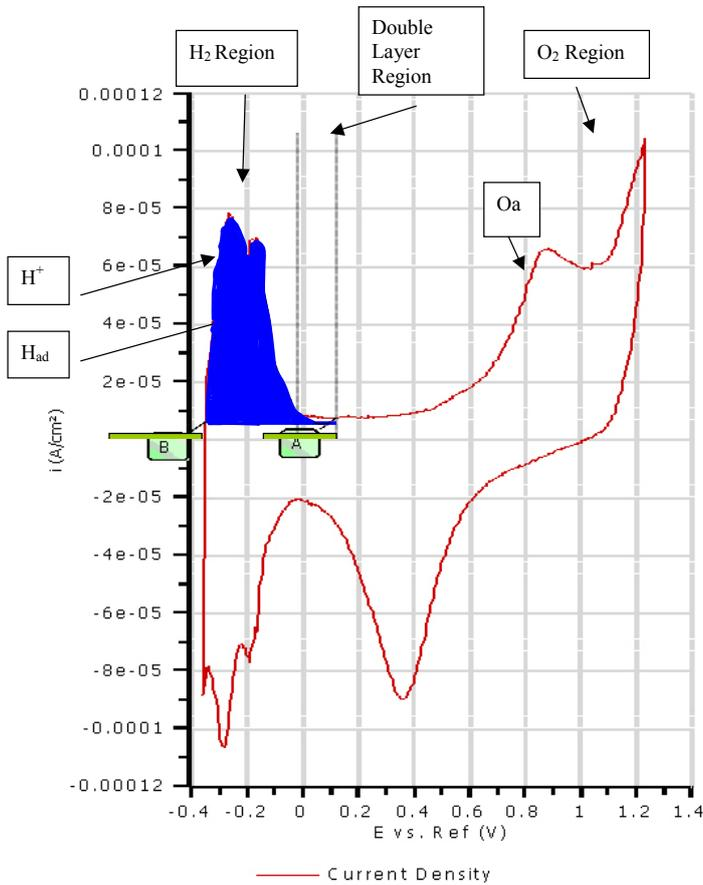
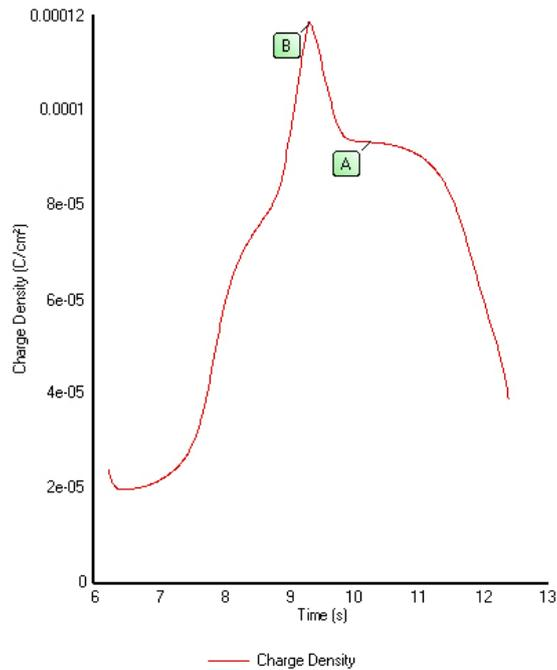

Figure 1: Cyclic Voltammogram of a Pt disk electrode in H₂SO₄. The hydrogen desorption region is highlighted in the shaded region.
Figure 2: Plot of Q vs t (derived from Figure 1 in the software)
A sample voltammogram is presented in Figure 1 with the oxygen and hydrogen regions identified. The shaded area represents the region associated with the desorption of hydrogen including double layer charging. The total charge is calculated using the following expression;
- Select the region of the curve to integrate. The software requires two markers to define this region; marker A defines E₁ and B defines E₂ (see Figure 1).
- (See Figure 2) change graph 1 to Q vs. t in the axes control panel and click 'Refresh'. Note that the cursors are at the same point with respect to time as those in Figure 1.
i) Using Figure 2 to calculate the total charge: $A = 9.32 \times 10^{-5} \text{ C}$, $B = 1.18 \times 10^{-4} \text{ C}$.
Figure 3: Expanded I-V curve of hydrogen desorption region. (derived from Figure 1). The total charge, Q, comprises the charge associated with desorption (region H) and that of double layer charging (Cdl (a) and (b)).